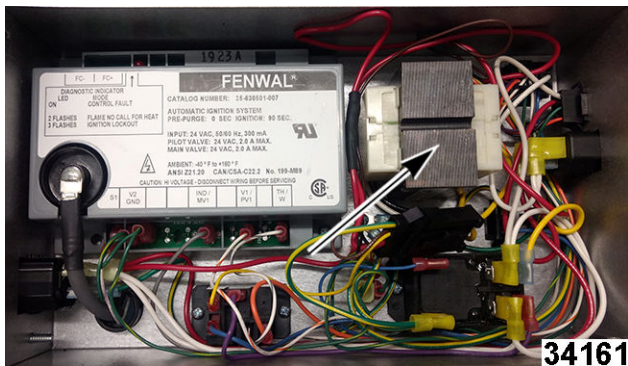

Fig. 75
3. Disconnect transformer assembly (1, Fig. 75) wires at harness plug.